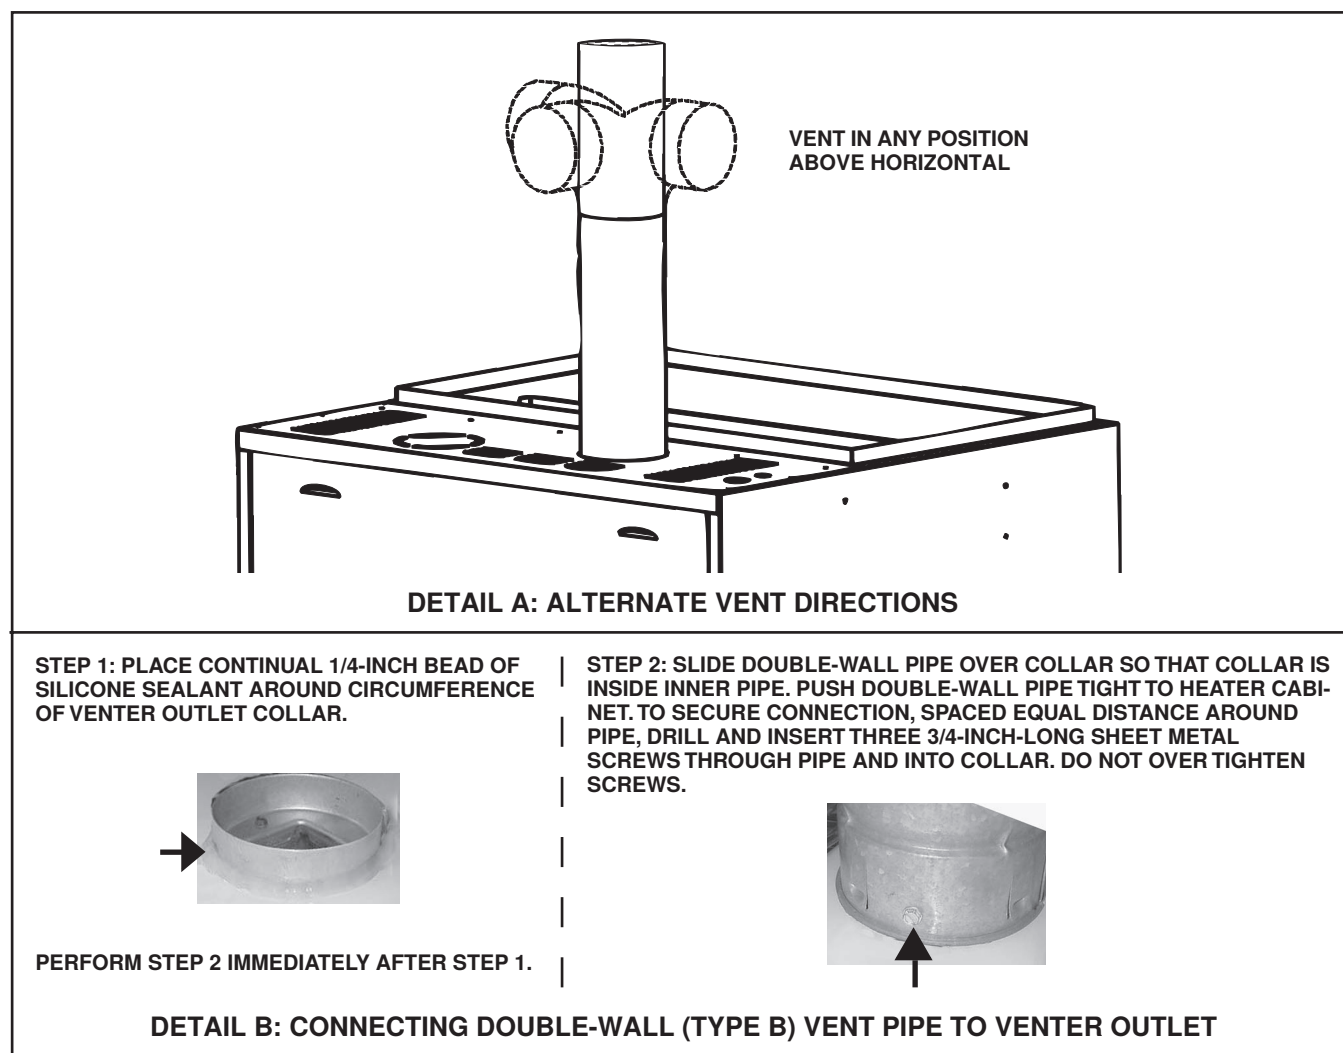

Figure 7. Vent Pipe for Power-Vented Installations
- **Venter (flue) outlet:** A minimum of 12 inches (305 mm) of straight pipe is required at the venter outlet (refer to Table 11) before installing an elbow in the vent system. An elbow should never be attached directly to the venter. An elbow attached to the straight pipe can be in any position at or above horizontal (see Figure 7, DETAIL A).
- If installing a double-wall vent run (allowed if half of the vent length is vertical), see Figure 7, DETAIL B.
If using Type B double-wall vent pipe in the vent pipe run (at least half of the equivalent vent length must be vertical), follow the pipe manufacturer's instructions for joining pipe sections. For attaching double-wall pipe to the heater, see Figure 7, DETAIL B. If using single wall, 26-gauge or heavier galvanized pipe, secure slip-fit connections using sheet metal screws or rivets. Seal pipe joints either with tape suitable for 550°F (290°C) (PN 98266) or high-temperature silicone sealant. If using Category III vent pipe, follow pipe manufacturer's instructions for joining pipe sections. When attaching Category III pipe to the venter outlet or the vent cap, make secure, sealed joints following a procedure that best suits the style of Category III pipe being used.